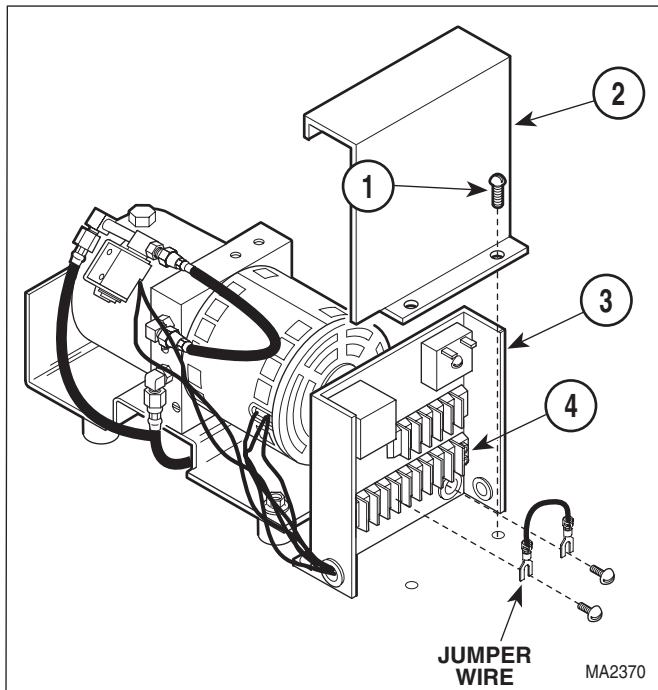

Figure 4-28. Jumper Wire Connection / Disconnection
- (1) Remove motor cover assembly (Refer to para 4.2).
- (2) Remove two screws (1, Figure 4-28) and control cover (2) from control panel (3).
- (2) Install bracket (6) and pan safety limit switch (2) as an assembly on seat weldment (7) and secure with two washers (5), lockwashers (4), and screws (3). Do not tighten screws fully.
- (3) Push pan slide assembly inward until it "locks" into its fully stowed position.
- (4) Slide bracket (6) toward rear panel of pan slide assembly until trip arm of pan safety limit switch (2) is firmly tripped by pan slide assembly. Tighten two screws (3).
- (5) Connect wire harness (1) to pan safety limit switch (2).
- (6) If installed, remove jumper wire (See Figure 4-28) from terminals of terminal block (4).
- (7) If removed, install control cover (2) on control panel (3) and secure with two screws (1).
- (8) If removed, install motor cover assembly (Refer to para 4.2).
- (9) Install upholstered seat section (Refer to steps 7 thru 9 of para 4.32B).